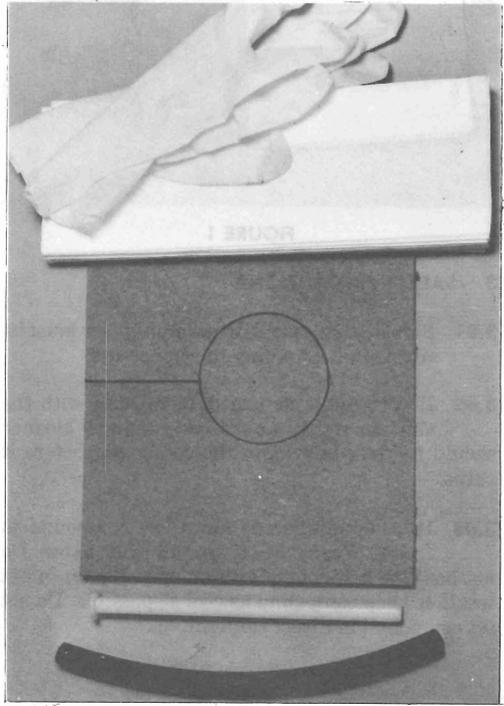

FIGURE 2
4.01 The following are the accessory items required for sealing conduits with PR-851 compound: (see Figure 2)